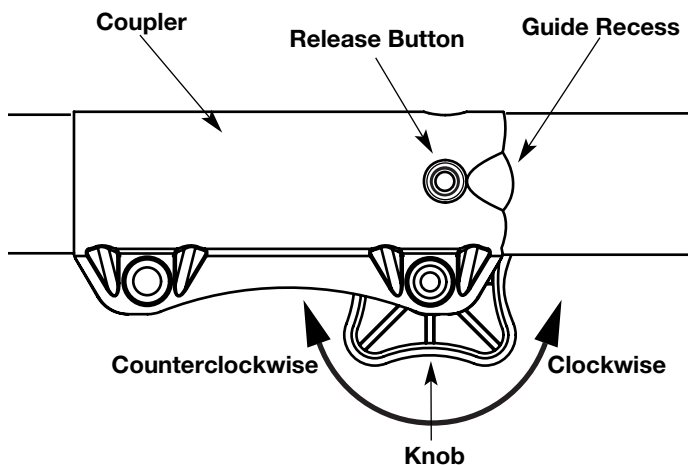

Fig. 1
1. Turn the knob counterclockwise to loosen (Fig. 1).
2. Press and hold the release button (Fig. 1).
2. Turn the knob counterclockwise to loosen (Fig. 1).
NOTE: Aligning the release button with the guide recess will help installation (Fig. 1).